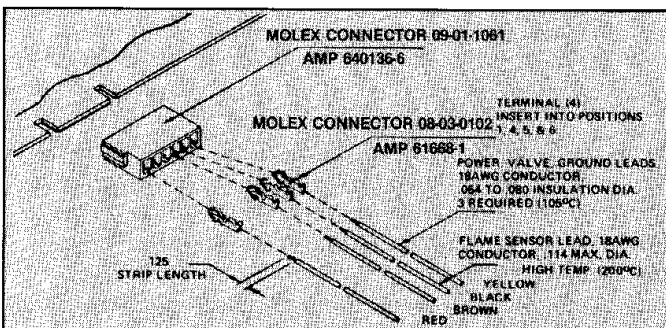
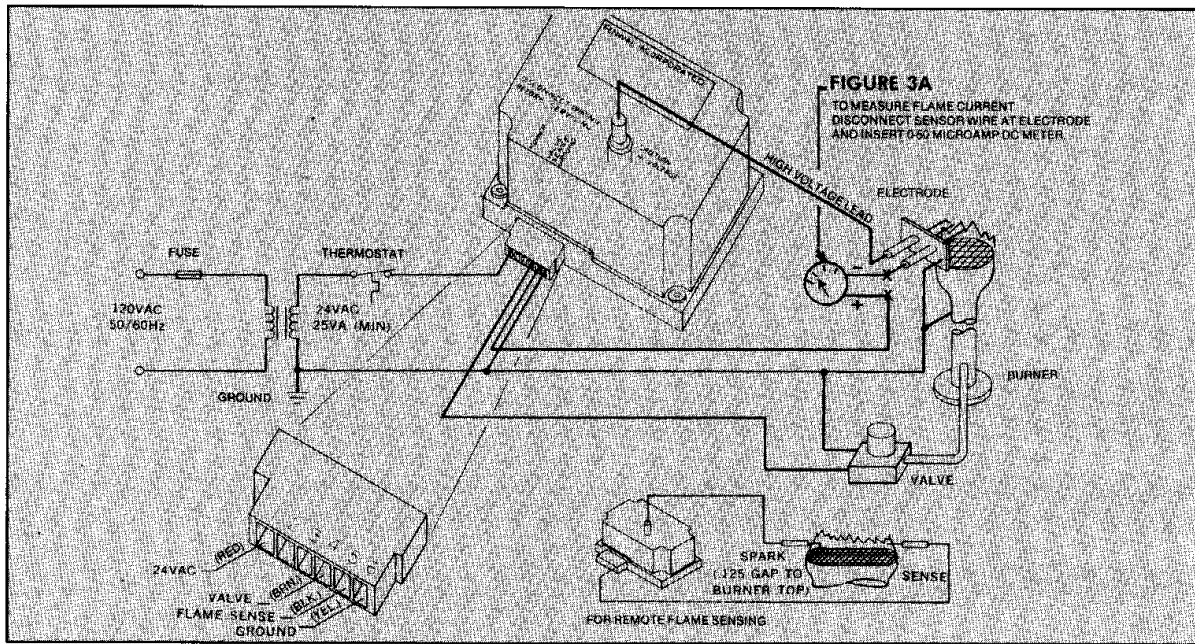

FIGURE 1
FIGURE 3
Insert plastic connector onto edge of PC board as shown in Figure 1. (Connector will not fit if reversed.) Connect leads as follows (See Figure 3):
Be sure that input is polarized as shown in Figure 3 and the installation is electrically grounded.
6. If system ignites but fails to hold in, check for 5 microamp minimum flame sense current and check to assure the system is properly grounded per Figure 3.